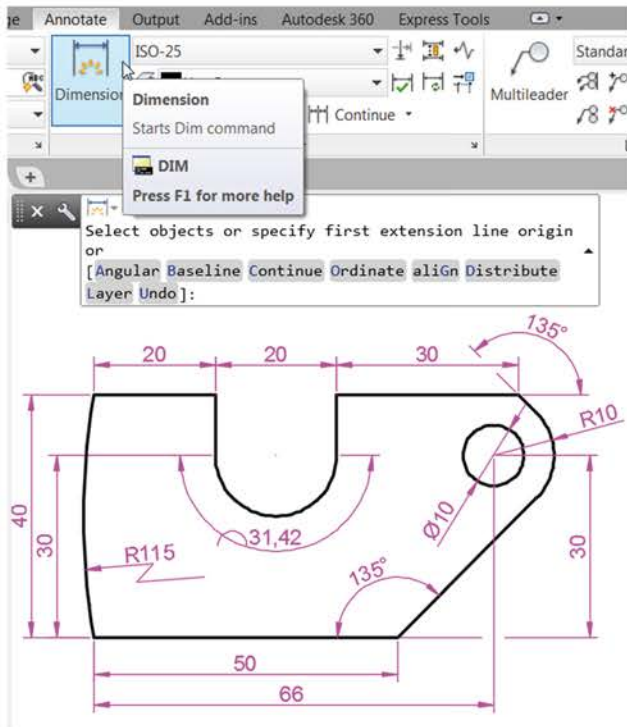

Fig. 12.21 Examples – using the DIM tool
THE DIM TOOL (FIG. 12.21)
1. Construct the outline in Fig. 12.21.
3. Select lines, arcs and the circle to see a preview of the possible dimensions. Place the dimensions as indicated in Fig. 12.21.